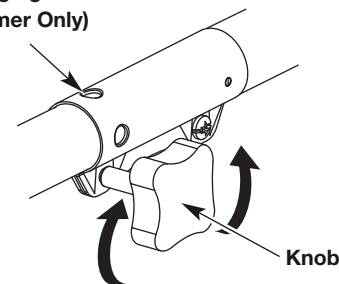
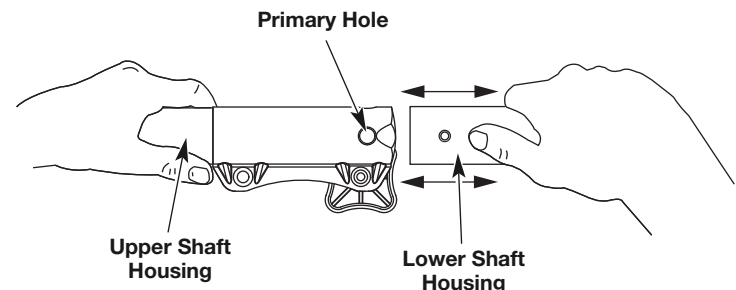

Fig. 4
Fig. 6
1. Turn the knob counterclockwise to loosen (Fig. 4).
2. While firmly holding the attachment, push it straight into the coupler until the release button snaps firmly into the primary hole (Fig. 6).
3. Turn the knob clockwise to tighten (Fig. 4).
CAUTION: Before operating the unit, make sure the release button is fully snapped into the primary hole (Fig. 6) and the knob (Fig. 4) is securely tightened.
For decorative edging with a string trimmer attachment, lock the release button into the 90° edging hole (Fig. 4).
3. While firmly holding the upper shaft housing, pull the attachment straight out of the coupler (Fig. 6).